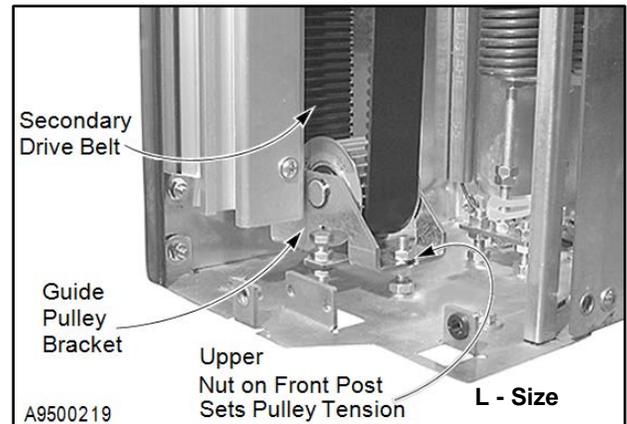

Figure 43
3. Belt tension should just be snug. It is adjusted by repositioning the guide pulley bracket on the front mounting post and the trolley at the top of the side column in L – Size doors. Moving the pulley closer to the base plate will increase belt tension. Moving the pulley away from the base plate will decrease belt tension. The trolley at the top of the side column increases tension as the trolley is moved towards the wall and decreases the tension when moved away from the wall. (See Figure 43.)